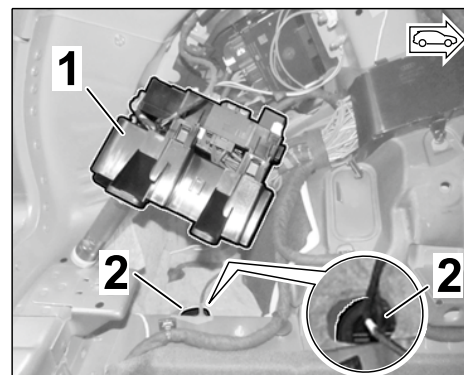

Figure 34
3.3.1 Loosen the fuse box with the holder in the luggage compartment, rear left, and turn it aside (⇒ Figure 34, ⇒ Workshop Manual '978409 fuse box in the luggage compartment').